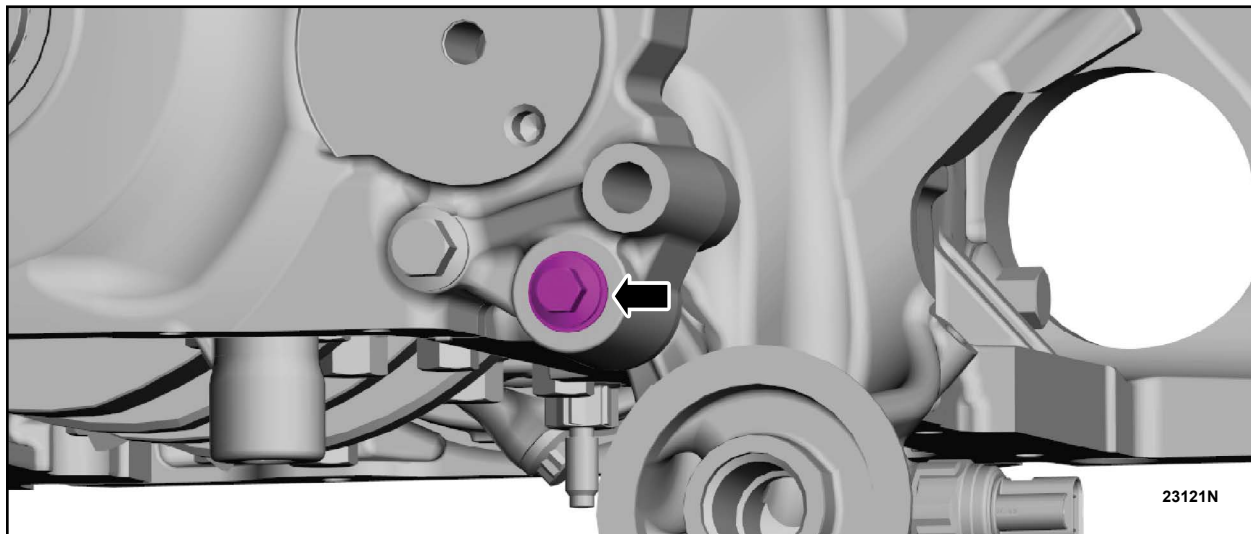

FIGURE 20
34. Install the engine front cover-to-oil filter adapter bolt. See Figure 20.